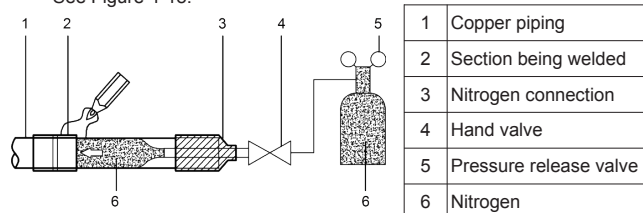

Figure 4-18
- When the pipe is filled with nitrogen during the welding process, the nitrogen must be reduced to 0.02 MPa via the pressure release valve. See Figure 4-18.